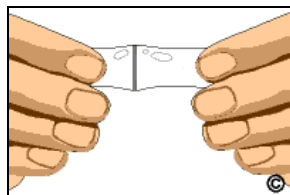

Figure 1: Remove divider clip and mix resin and hardener inside package.
2. Remove the clip separating the resin and hardener. Mix by squeezing both halves together. Mix for at least one minute to ensure a complete mix of the resin and activator. (See Figure 1).